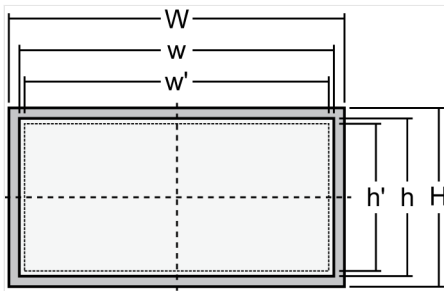

Fig. 10: Cutout schematic
1. > Cut out the panel according to the dimensions in Fig. 10.